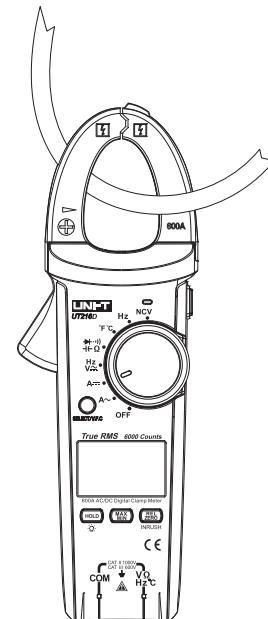

Fig. 2
**VIII. Operation instructions for measurements****1. Measurement of AC current (shown as Fig. 2)****(1) Set AC current measuring function gear.**